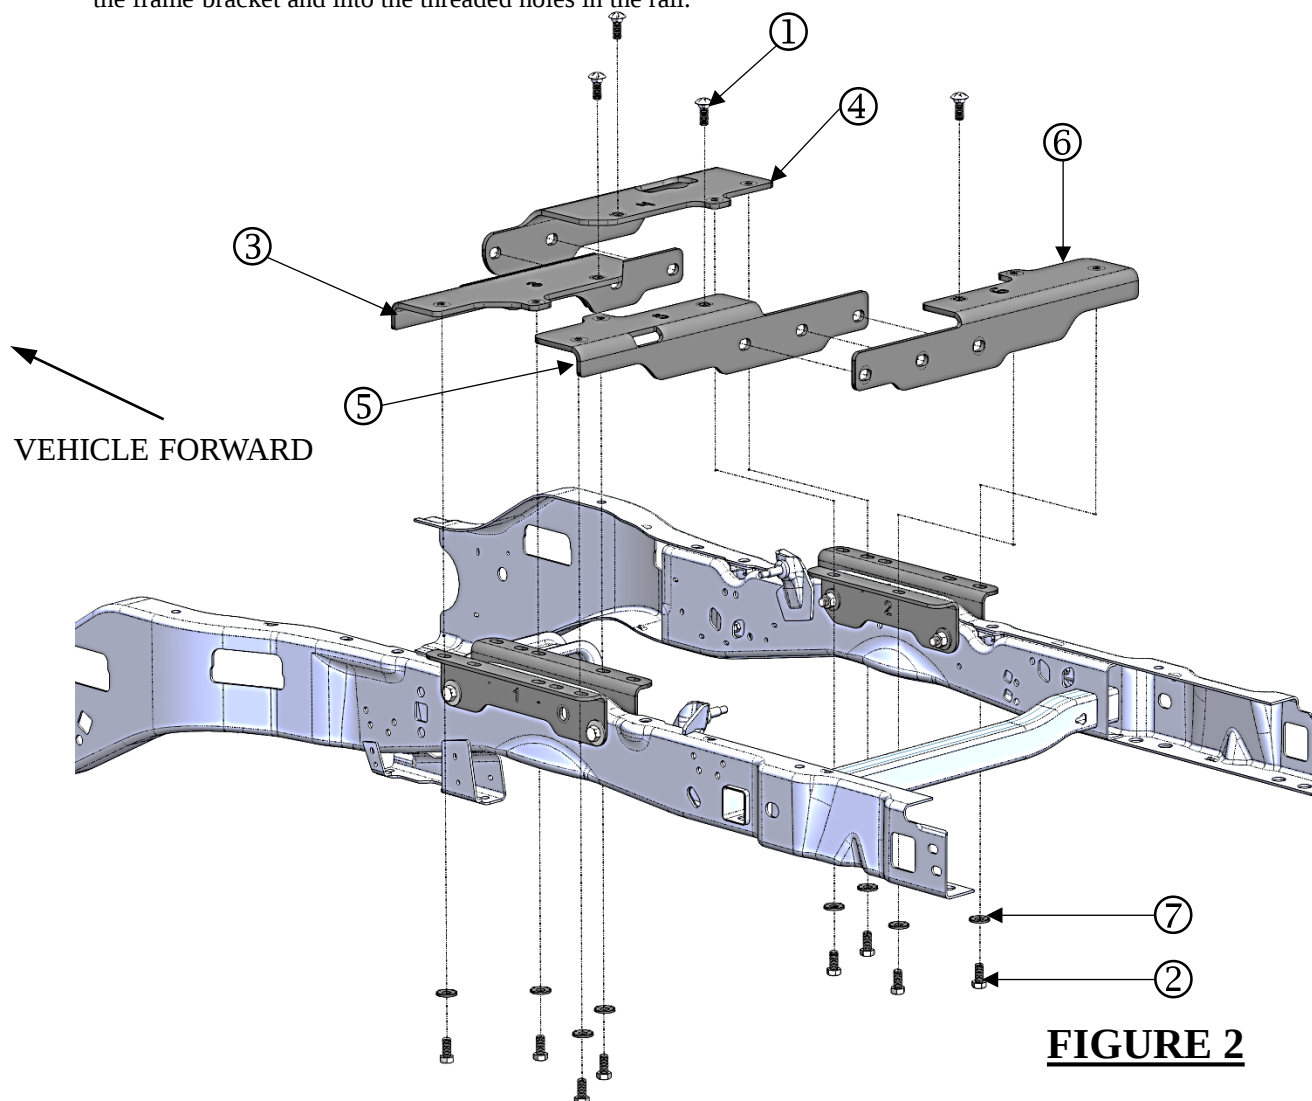
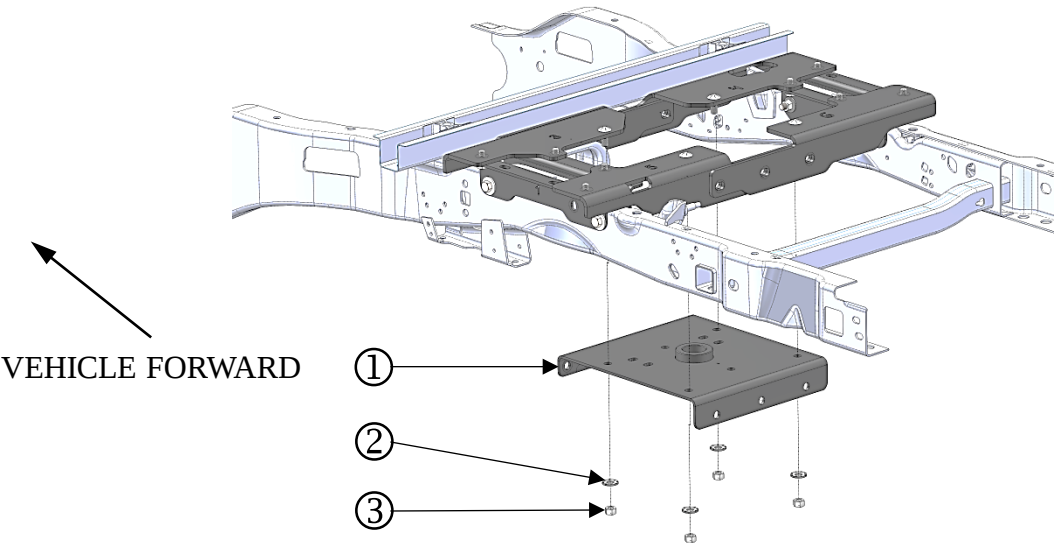

FIGURE 2
FIGURE 3
Mounting Rail Installation-Figure 2
GOOSENECK CENTER SECTION INSTALLATION-Figures 3 & 4.
- 1. Step 1, **Figure 3**. From underneath the vehicle, raise the gooseneck center section (#1) up to the bottom side of the rails as shown and route the carriage bolts previously installed in the rails (page 3 fig. 2) through the 4 outside holes in the center section, and secure using (4) 5/8" dia. conical washer (#2) and (4) 5/8-11 Gr. 8 hex nut (#3).